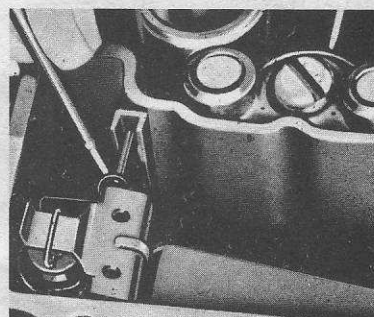

Fig. 3.50 Using a screwdriver to remove the float shaft retainer (2100D carburetor) (Sec. 21)
- 11 Use a screwdriver to pry the float shaft retainer from the fuel inlet seat (Fig. 3.50) and lift out the float, float shaft retainer and fuel inlet needle assembly; then remove the retainer and float shaft from the float lever.